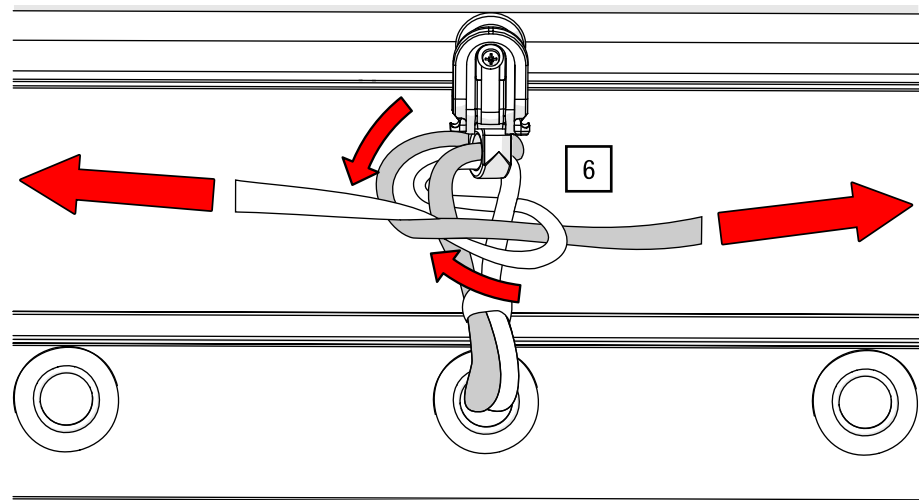

Fig. 94: Tie line – Tie first knot
6. Tie the loose ends crosswise at the front and pull them tight (see Fig. 94).